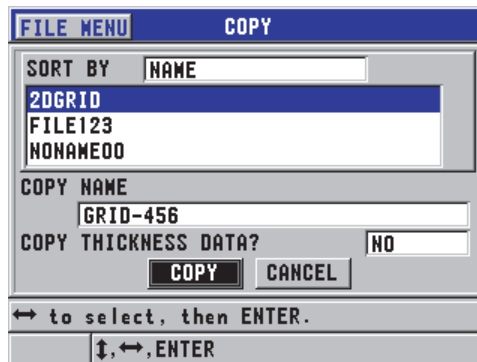

Figure 6-28 Copying a file
2. In the **COPY** screen (see Figure 6-28 on page 110):